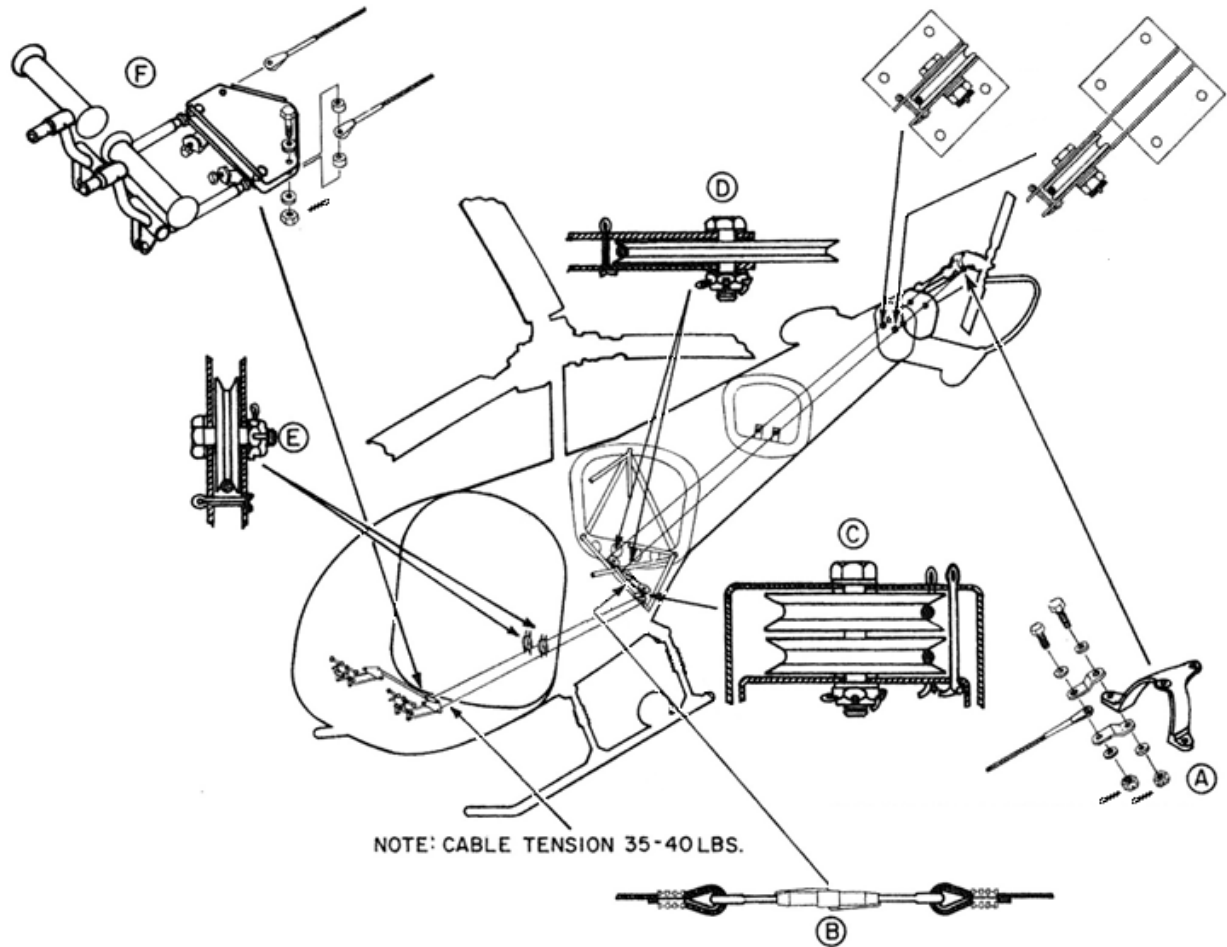

Figure 10-29. Tail Rotor Cables
B. Replacement – Tail Rotor Cable (Fig. 10-29)
(1) Replace the aft section of the tail rotor cable as follows:
- (2) Replace the forward section of the tail rotor cable as follows (Fig. 10-29):